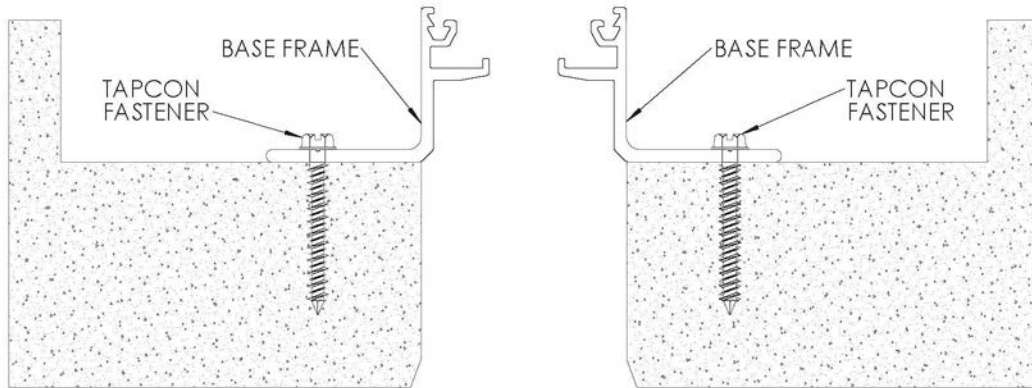

FIGURE 2
2. Position base member frames in blockout per shop drawings. Using the frames as a template, mark and drill 5/32” holes in the concrete. Install base member frames in the blockout opening with supplied Tapcon fasteners, making sure not to over tighten. **See Figure 2**